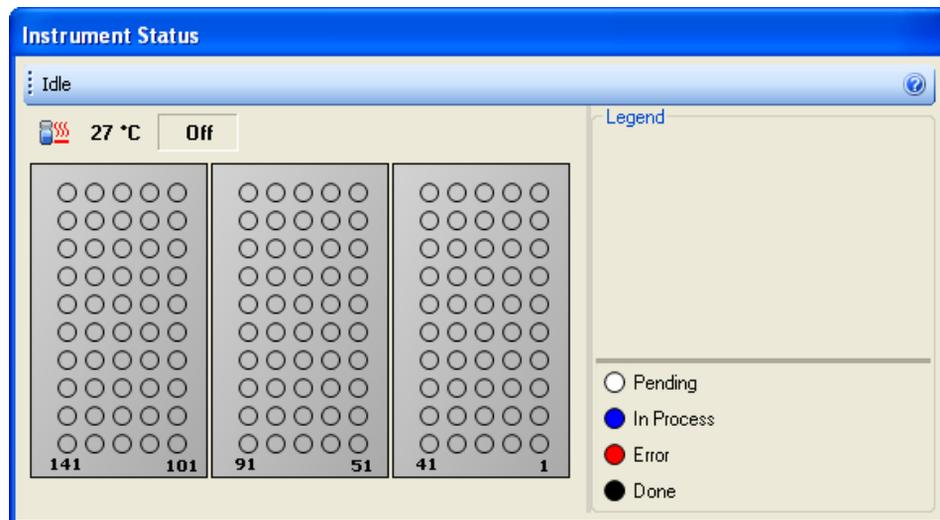

Figure 7 Instrument Status
- 6 View the Instrument Status panel (Figure 7) to monitor the current status of your instrument.